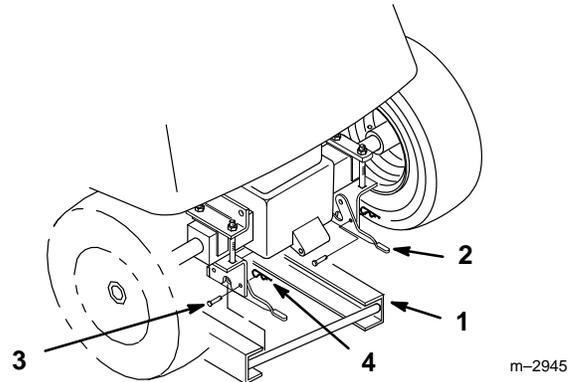

Figure 9
4. Open latch levers and lower frame from rear hitch. Close latch levers and secure closed with clevis pins and hairpin cotters (Fig. 9).